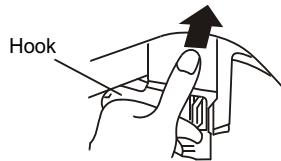

Figure 10
- (1).Install the corrugation pipe.
- (2).Insert the mounting plate at the bottom of the filter into the valve cover.
- (3).Hang up the hook at the left upper side.
- (4).Push the upper part in (as indicated in Figure 10).